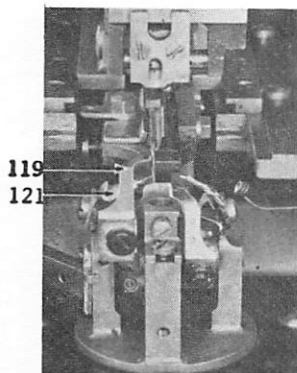
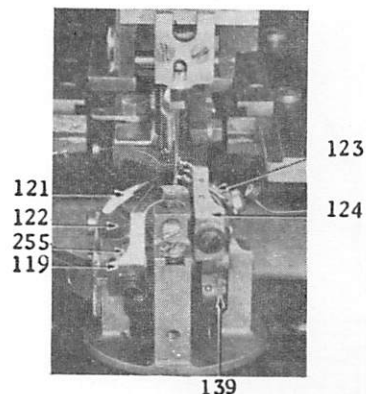

Fig. 22 Showing Correct Timing
Fig. 23 Showing Correct Timing
Should the cutting space be changed, it will be necessary to adjust the left hand loop retainer (119, Fig. 22) to the left or the right as instructed on page 29.
turn until the operating plate (50, Fig. 12) rides on the start segment (51, Fig. 12), allowing the machine to be turned by hand. Place non-threaded looper (121, Fig. 22) on seat of looper carrier (122, Fig. 23) and turn machine until the needle bar, after descending to its lowest point, has risen so that the timing mark on needle bar is even with top of top needle bar bushing, and the point of the non-threaded looper has advanced to center of the needle. At this position, the point of the non-threaded looper should be adjusted to center of needle, as shown in Fig. 22, and adjusted sidewise so that it just clears the needle.
Turn hand wheel over until looper (123, Fig. 23) can be inserted on looper carrier seat (122, Fig. 23), then turn machine until the needle bar, after descending to its lowest point has risen so that the timing mark on needle bar is even with top of top needle bar bushing and the point of the threaded looper has advanced to the center of the needle. At this position, the looper point should be adjusted to center of needle, as shown in Fig. 23, and adjusted sidewise so that it just clears the needle.
The above adjustment of the adjusting nuts (135) on the looper driving bar (134) should position the loopers correctly so that the point of the threaded looper (123, Fig. 23) and non-threaded looper (121, Fig. 22) will be at the center of the needle on their respective strokes when the needle bar has risen, so that the timing mark on needle bar is even with the top of needle bar bushing. It may be found that the point of one of the loopers is ahead or back of the center of the needle. If such is the case, make sure that the distance between the points of the loopers is $9/32$ inch on the 299U130 machine and $5/16$ inch on the 299U110 machine. Then readjust the adjusting nuts (135) for the looper driving bar (134) up or down, as the case may be, to bring the point of the looper to the center of the needle. Any adjustment of the looper driving bar moving the looper to or from the center of needle will throw the other looper in the opposite direction, therefore each looper should be checked with respect to its own dip of the needle.
The loop retainer driving bar adjusting nuts (137) should now be positioned to raise or lower the driving bar (22), thus positioning the left hand loop retainer seat on the carrier (255, Fig. 23) in a vertical position when loop retainer driving bar (22) is at its uppermost throw. When the correct position of loop retainer driving bar is obtained, turn hand wheel until the loop retainer driving bar is at its lowest point and check if the right hand loop retainer seat on the carrier is in a vertical position or not. Should the loop retainer seat
be out of vertical position, it should be corrected by adjusting the eccentric bushing (139, Fig. 23). This should bring the needle down through the center of the loop made by the horn of the respective loop retainers. Should the needle not penetrate the center of the loop, it will be necessary to adjust the loop retainer by removing or adding shims as referred to on pages 28 and 29. After making the adjustments to the looper driving bar (134) and the loop retainer driving bar (22), ratchet the machine as referred to on page 46 to see that there is no bind to the adjusting nuts as the looper bracket (132) is rotated.
When replacing a looper driving crank (131, Fig. 4) to the looper frame (129, Fig. 4), position the looper driving crank gear in proper mesh with the looper driving gear so that the timing marks on each gear are in line with each other. Turn the looper driving crank until the set screw on the crank gear is downward and holding the driving gear and crank gear in this position, turn the looper driving crank (131) so that the 3/16 inch hole (V, Fig. 4) in its flange is to the left and the lower edge of hole is over and exactly in line with the top edge of the left hand counterbored screw hole in the flange of the looper driving crank bushing which is directly under the flange of the looper driving crank (131) when looper frame is in an upright position, then slightly tighten set screw. Now place looper frame on the machine as instructed on pages 29 and 30. After making sure that the looper driving bar (134, Fig. 4) is assembled with the lower adjusting nut (135, Fig. 4) flush with the lower end of the looper driving bar (134), as instructed on page 31, set the non-threaded looper (121, Fig. 23) so that the forward edge of the non-threaded looper (121) seat is flush with the forward edge of the seat on the looper carrier (122, Fig. 23). Turn the hand wheel until the needle bar, after descending to its lowest point on the depth stitch, has risen so that the timing mark on needle bar is even with the top of top needle bar bushing and advance or retard the looper driving crank (131) a very slight amount until the point of the non-threaded looper (121) is opposite the center line of the needle. (This may be done by turning the hand wheel over until it is noted that the looper driving crank remains stationary and holding the hand wheel in this position and with a punch striking the 3/16 inch hole (V, Fig. 4) in the flange of the looper driving crank.) Now turn the hand wheel over until the needle bar, after descending to its lowest point on the slit stitch, has risen so that the timing mark on needle bar is even with the top of top needle bar bushing, then position the point of the threaded looper (123, Fig. 23) so it is opposite the center line of the needle. Carefully measure the distance between the points of the non-threaded looper (121, Fig. 23) and the threaded looper (123). Should the distance be greater than 9/32 inch on the 299U130 machine (5/16 inch on the 299U110), turn the looper driving crank (131) a slight amount in a counterclockwise direction while holding the hand wheel or should the distance be less than 9/32 inch (5/16 inch), turn the looper driving crank (131) a slight amount in a clockwise direction. Now proceed as before to bring the needle bar to the timing mark on the depth stitch and reposition the non-threaded looper (121) to the center of the needle and then bring the needle bar to the timing mark on the slit stitch and reposition the threaded looper (123) to the center of the needle. Great care must be taken in positioning the looper driving crank and the two loopers so that the distance between their points is exactly 9/32 inch (5/16 inch) and their points are exactly at the center of the needle on its respective vibration when the needle bar has risen to the timing mark on the needle bar. Now make sure there is no end play in the bearing of the looper driving crank (131) after which the pin hole for the looper driving crank may be drilled and reamed.
When replacing a loop retainer driving crank (140, Fig. 4) to the looper frame (129, Fig. 4), position the looper driving crank gear in proper mesh with the looper driving gear so that the timing marks on each gear are in line with each other. Hold the driving gear and crank gear in this position, turn the loop retainer driving crank (140) so that the 3/16 inch hole (W, Fig. 4) in its flange is to the right, exactly in line with the right hand counterbored screw hole in the flange of loop retainer driving crank bushing which is directly under the flange of the loop retainer driving crank (140) when looper frame is in an upright position, then slightly tighten set screw. Now place looper frame on the machine as instructed on pages 29 and 30. After making sure that the loop retainer driving bar (22, Fig. 4) is assembled with the lower adjusting nut (137, Fig. 4) 5/64 inch below the extreme end of the driving bar (22) as instructed on page 31, assemble the right hand loop retainer (124, Fig. 23) to the loop retainer carrier seat in relation with the loopers as instructed on page 28. The right hand loop retainer (124) should be set so that it will be stationary at its extreme advance throw when the needle is descending on the slit stitch and also should be adjusted so that the horn of the right hand loop retainer will catch the loop held on the non-threaded looper (121, Fig. 23) as explained on page 28. This may be done by turning the hand wheel over until it is noted that the loop retainer driving crank (140) remains stationary and holding the hand wheel in this position, turn the loop retainer driving crank (140) clockwise or counterclockwise as required by striking the 3/16 inch hole (W) in the flange of loop retainer driving crank with the use of a punch. When above adjustment is made, the left hand loop retainer will also be correctly positioned. After correct position is obtained, remove the looper frame from machine and securely tighten the loop retainer driving gear set screw. Now make sure there is no end play in the bearing of the loop retainer driving crank (140) then proceed to drill each side of the hub of the loop retainer driving crank gear half way into the shaft. After reaming the hole to proper depth, remove the gear from the shaft end of the loop retainer driving crank and thoroughly clean out all chips and burr the shaft where the pin hole breaks through and reassemble the parts onto the looper frame with the timing marks of the two gears in line with each other.